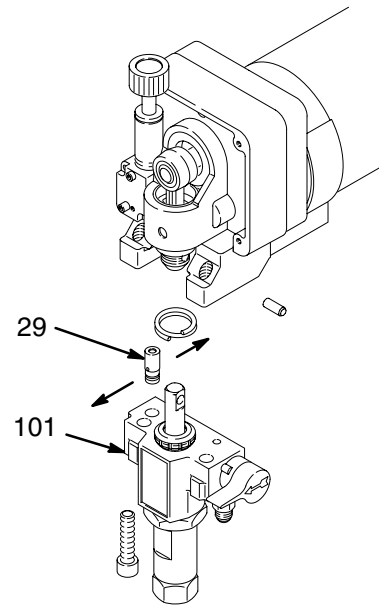

Fig. 26
**NOTE:** See Fig. 26 for this procedure.
2. Use a pull-twist motion to remove the transducer (29) from the pump manifold (101).
6. Align the holes in the transducer as shown by the arrows in Fig. 26.